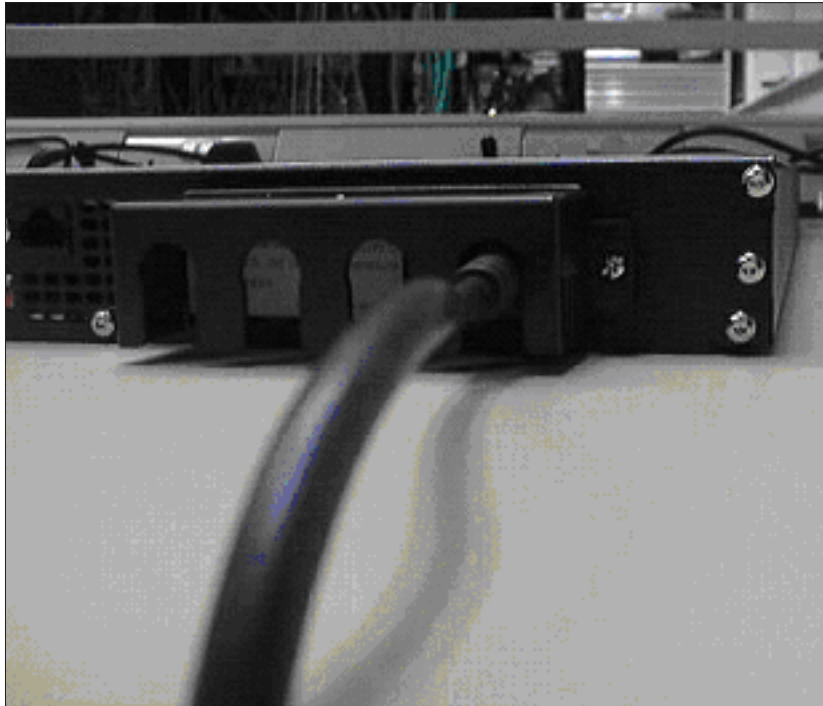

Figure 49. The 2145 UPS-1U cable retention bracket connected to the 2145 UPS-1U
4. Screw in the two screws on each end of the cable retention bracket. See Figure 49.